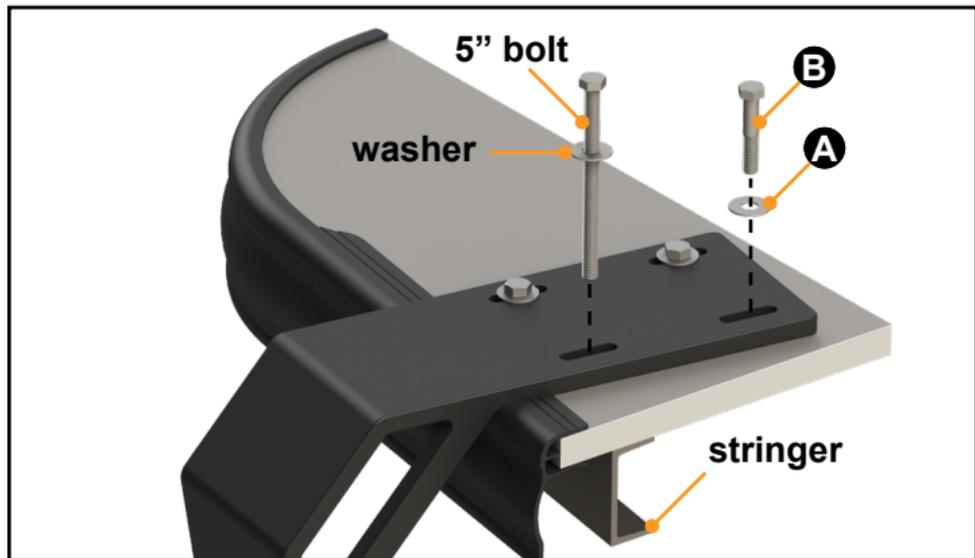

Fig. 7
- B. Install assembled bolts through the mounting bracket, pontoon deck and stringer (if applicable) (Fig. 7).